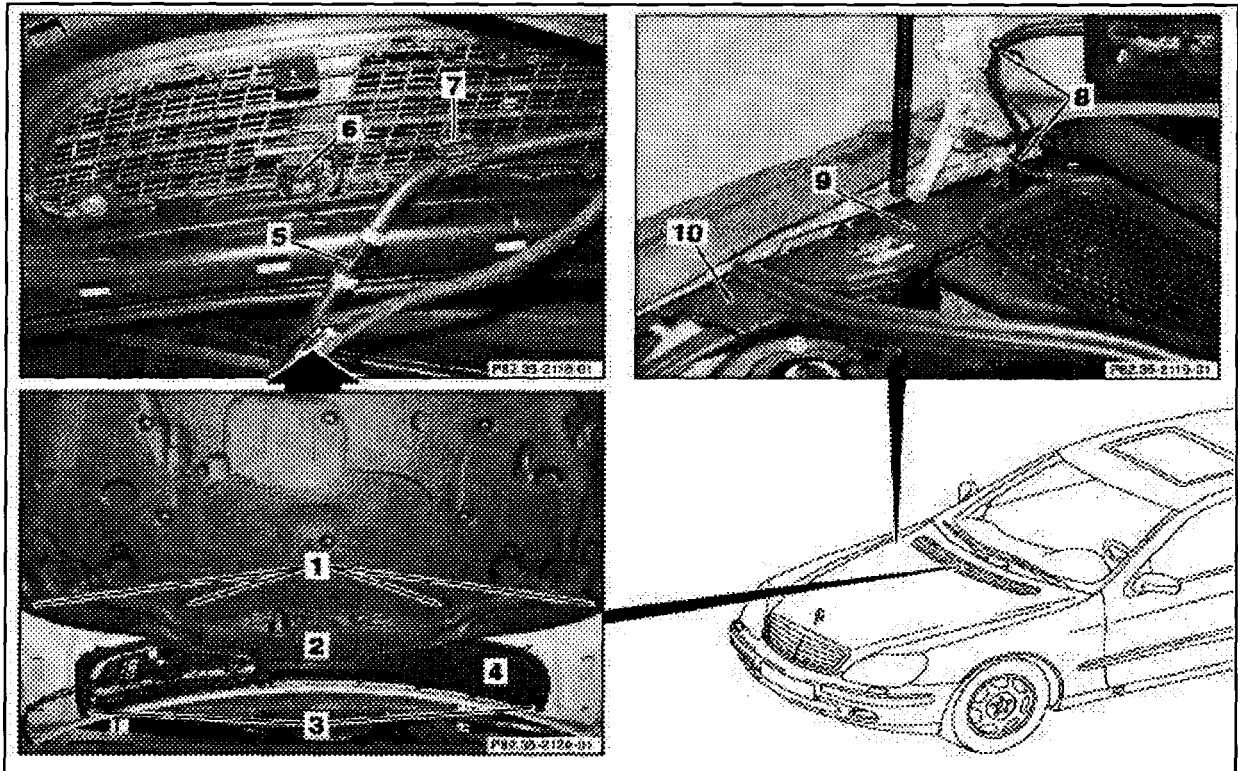

Figure 4
3. Unclip clips (1, Figure 4) from hood insulation mat (2, Figure 4).
4. Remove screws (3, Figure 4) from cover (4, Figure 4).
5. Carefully fold back overlapping section of engine hood insulation mat (2, Figure 4).
6. Unclip cover (4, Figure 4) located at rear of engine hood and remove cover after unclipping.
7. Pull washer fluid hose (5, Figure 4) off of windshield washer nozzles (6, Figure 4).
8. Pull off omega clips (8, Figure 4), located near right hand engine hood hinge.
9. Remove cover (9, Figure 4) for SAM control module (N10/7).
10. Remove cable duct cover (10, Figure 4).
16. Attach replacement heated washer fluid hose (5, Figure 4) to windshield washer nozzles (6, Figure 4).
17. Secure washer fluid hose in washer fluid hose bracket (7, Figure 4).
20. Attach washer fluid hose (5, Figure 4) to the washer fluid pump (M5/1, Figure 4).
24. Reinstall cover (9, Figure 4) for SAM control module (N10/7).
25. Reinsert omega clips (8, Figure 4) into recesses.
26. Reinstall cover (4, Figure 4) at end of engine hood.
27. Tighten screws (3, Figure 4) of cover (4, Figure 4).
28. Fold down previously folded back overlapping section of engine hood insulation mat (2, Figure 4).
29. Install clips (1, Figure 4) for hood insulation mat (2, Figure 4).